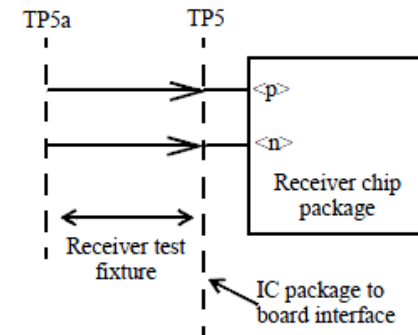

Figure 94-9—Receiver test fixture and test points.
- Replace Figure 94-9 with the attached figure